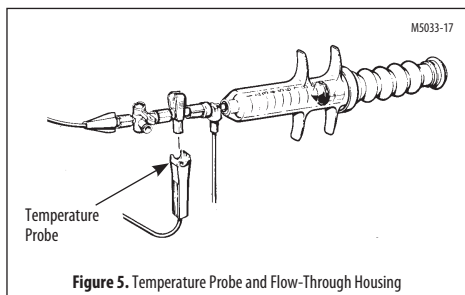

Figure 5. Temperature Probe and Flow-Through Housing
2. Insert the injectate temperature probe into the flow-through/check valve until it snaps into place (Figure 5). Secure the system to minimize movement with respect to the patient.